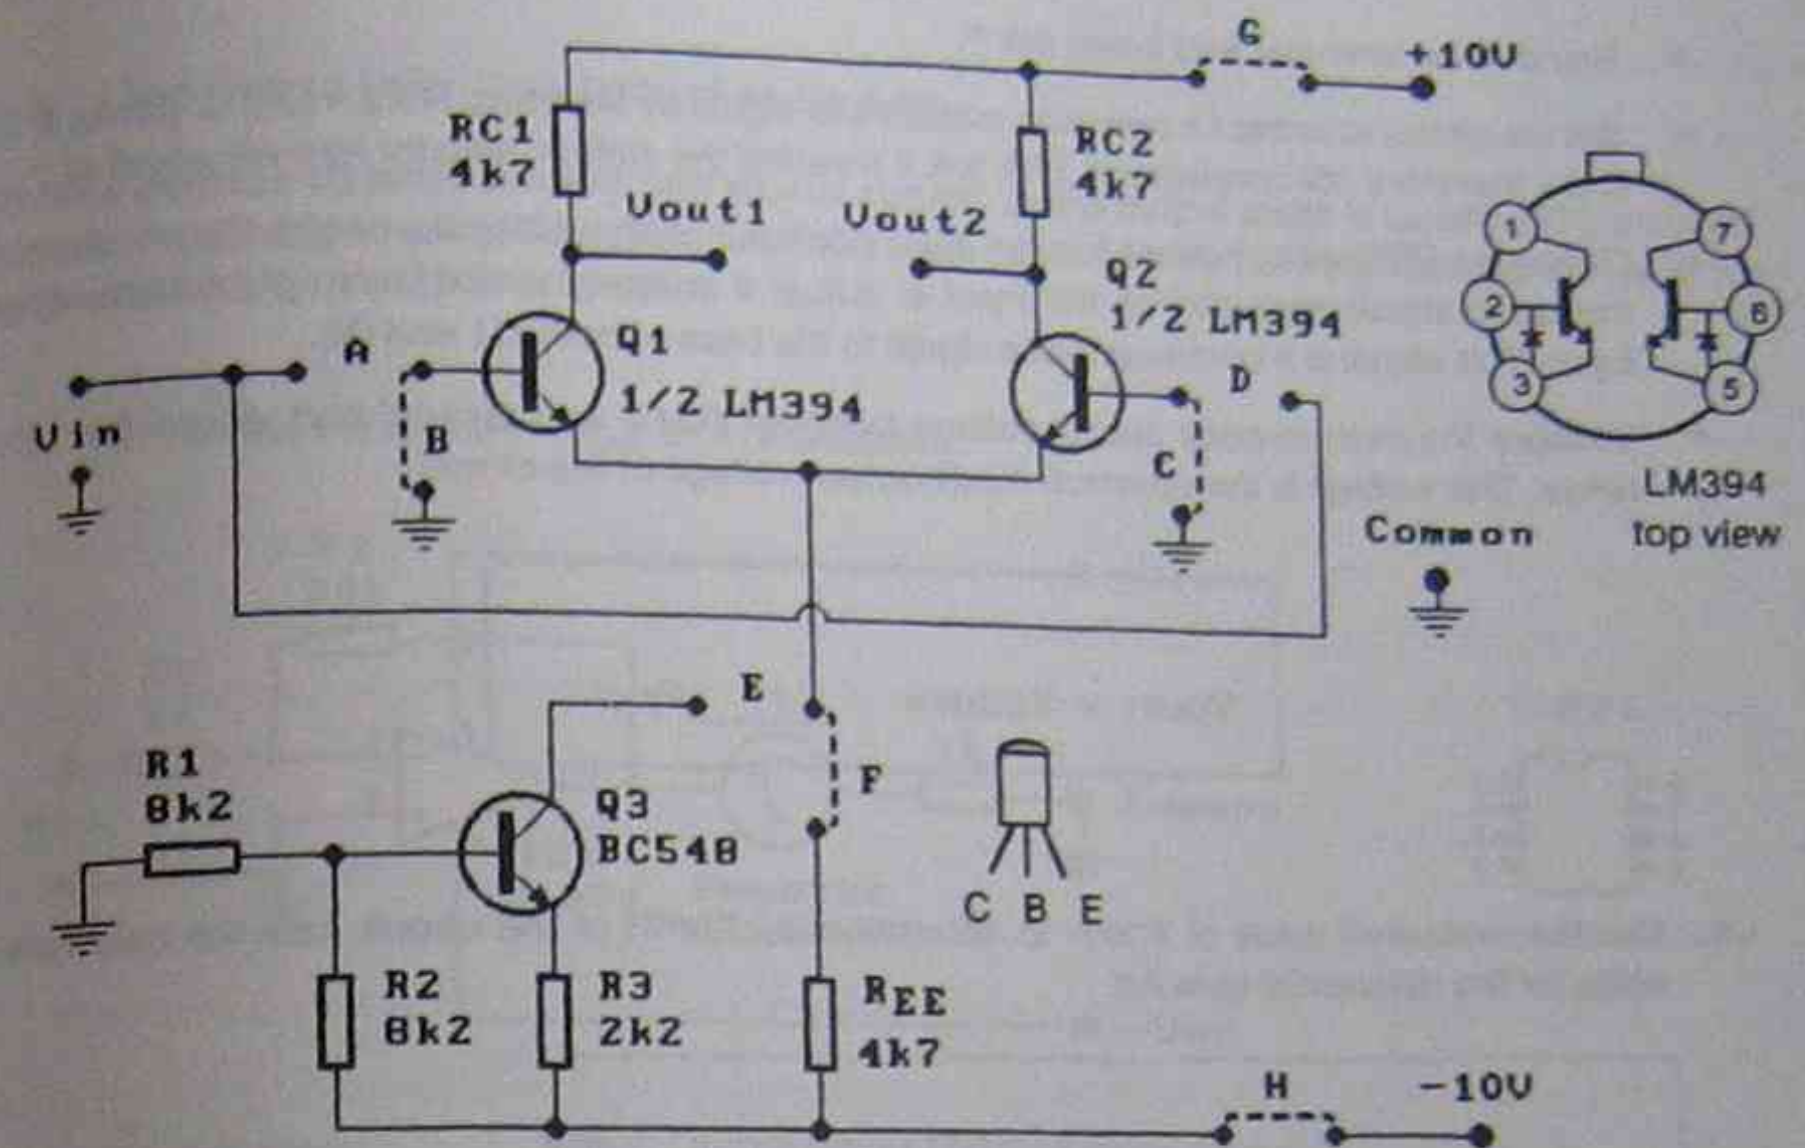

Fig. 1: Differential amplifier and constant current source
- Refer to Fig.1 on the next page and calculate the current that will flow through Q3 if link E is in place. Record this value below.
- Either construct the circuit of Fig.1 onto a breadboard or plug the printed circuit board containing the circuit into the mother board. The teacher will advise how the power supply connects to the motherboard. Insert the links labelled B, C, G and H and connect a DC ammeter in place of link E. Note that link F is *not* connected.
- Calculate the CMRR of Fig.1 assuming R_{EE} equals 4k7. Record this value below.
- Calculate the approximate voltage gain of the differential amplifier of Fig.1 assuming a balanced input and balanced output, the component values shown and link F connected.